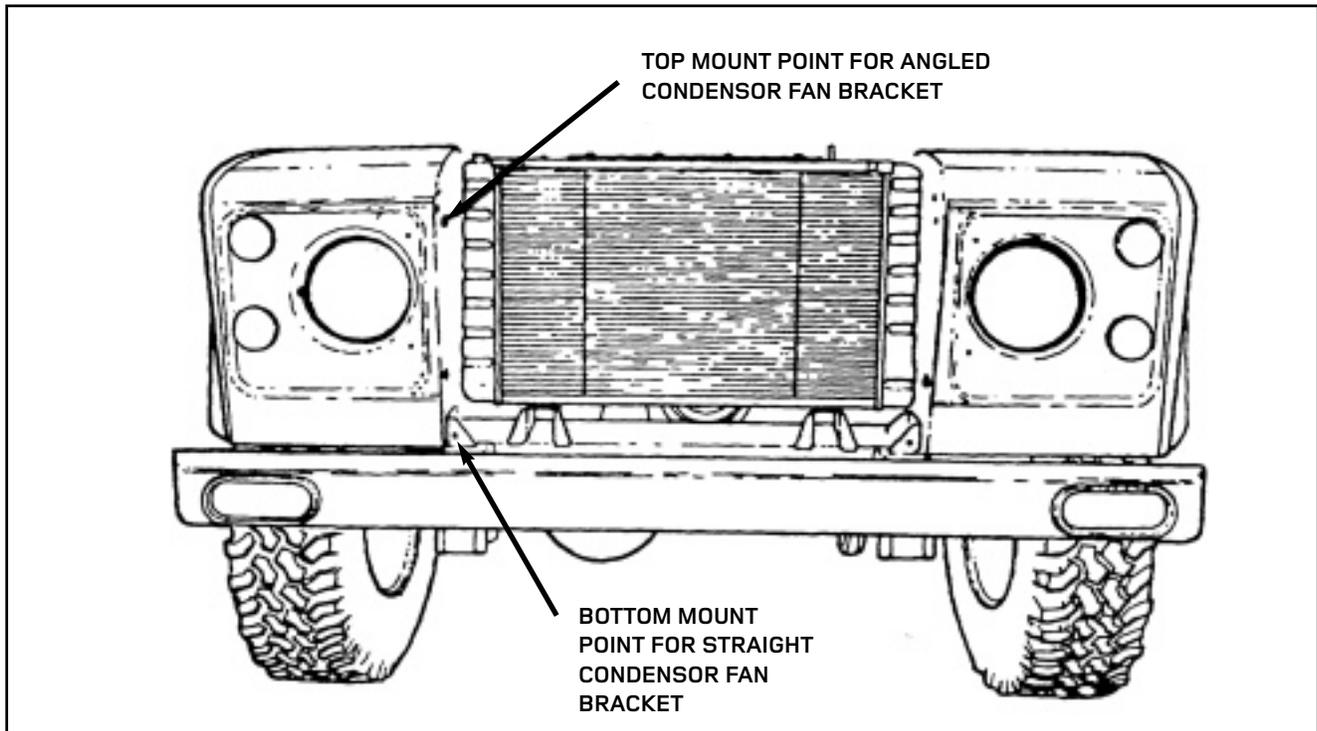

FIGURE 2
3. **Remove the front panel** (see figure 2, page 3).
4. **Remove "A" Frame support assembly** (see figure 2, page 3).
25. The Condenser Fan is pre-assembled in a frame that fits at the bottom to the "A" bar fixing points on the chassis rail and to grill panel fix points on both wings as shown in figure 2, page 3. Re-fit the "A" bars over the condenser fan assembly of the radiator with the condenser fan facing forward with straight mounts on the bottom and angled mounts on top (see figure 2, page 3).